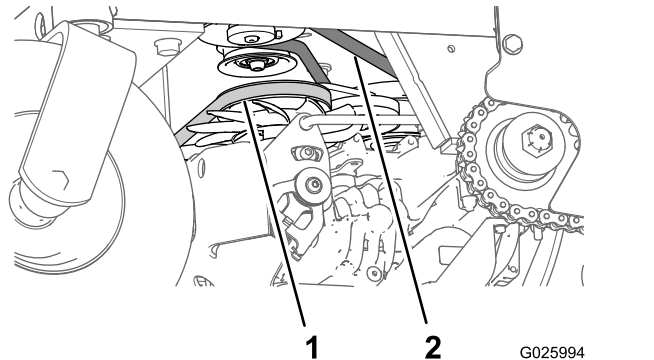

Figure 50
3. Check the auxiliary pump-drive belt condition and tension (Figure 50).
4. Check condition of the transmission-drive belt (Figure 50).